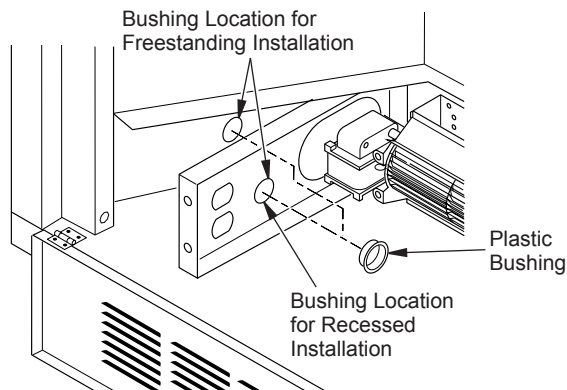

Figure 6 - Installing Bushings (Left Side Exit shown)
- b. **If your fireplace system installation is recessed**, install one plastic bushing provided into the 1.5" hole near the middle of the left floor support bracket (see Figure 6). Route power cord through plastic bushing. Plug the power cord into a properly installed duplex outlet. (If an outlet is not installed in your fireplace, the accessory model GA3555 Outlet Kit with cover can be installed in your fireplace. This will supply a convenient three-prong grounded electrical outlet for your blower. Refer to the installation manual provided with the model GA3555 accessory for instructions on wiring the duplex outlet.)